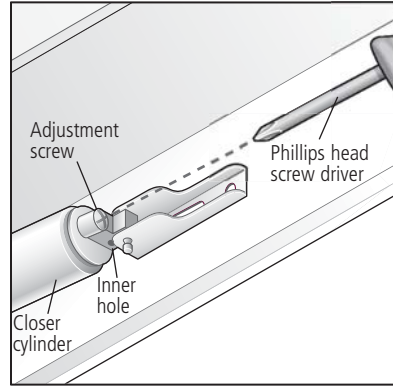

Figure 7
The latch activates automatically as the door is closed. To open the door, push downward on the inside or outside handle (Fig. 7).
3. Use Phillips head screwdriver to adjust closer to desired speed (Fig.7).